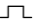

图8 Fig.8
- 手动计量泵的面板按键和指示灯的分布。（如图 8）；Distribution of button and indicator light of manual metering pump (as shown in Fig.8)